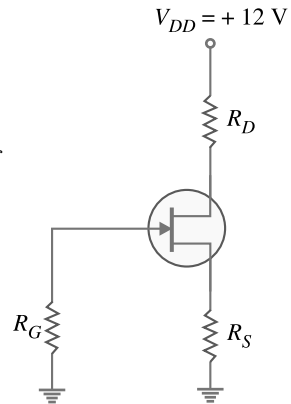

Fig. 17.27
**Example 17.17.** Select resistor values in Fig. 17.27 to set up an approximate midpoint bias. The *JFET* parameters are:  $I_{DSS} = 15 \text{ mA}$  and  $V_{GS(off)} = -8 \text{ V}$ . The voltage  $V_D$  should be  $6 \text{ V}$  (one-half of  $V_{DD}$ ).